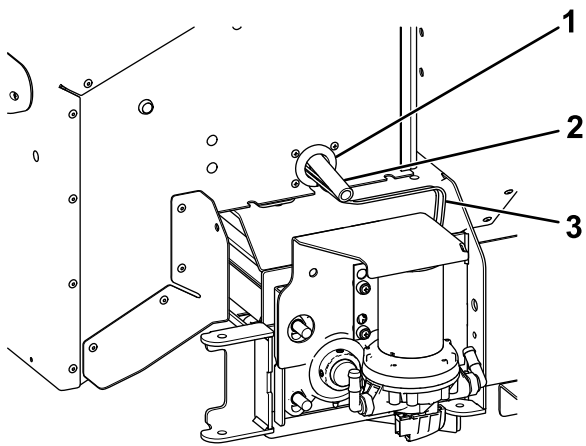

Figure 22
- 13. Bring the rear cover close to the spreader and route the pump connector through the previously installed grommet (Figure 22). For the pintle chain Forge spreaders, route the 45 cm (18 inch) hose from the spray nozzle through the grommet as well.